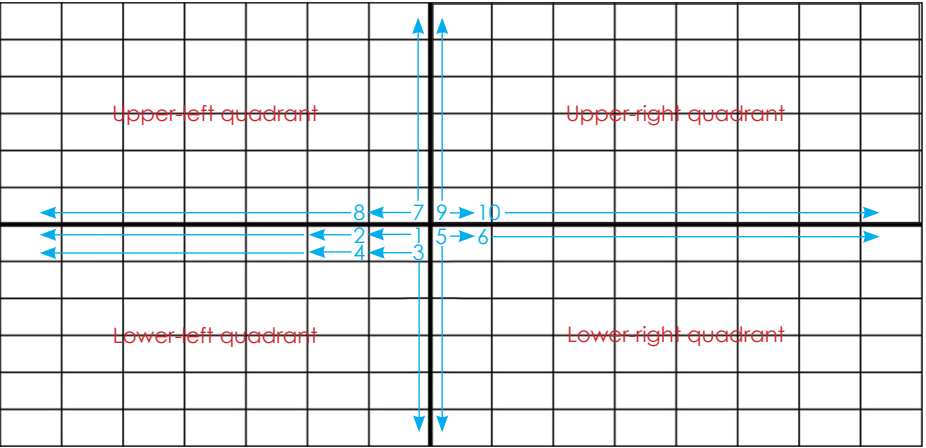

Figure 50: Divide Display into Four Quadrants
- 9. Locate the center of the display and visually divide the display into four quadrants. Refer to **Figure 50**.
11. Place jiggling pieces one by one from left to right in the lower-left quadrant. Refer to **Figure 50**.
12. Shift down a row and place jiggling pieces one by one from left to right. Refer to **Figure 50**.
13. Repeat **Step 10** and **Step 11** for the other quadrants, always starting at the center of the display and working toward the left or right and then toward the top or bottom. Refer to **Figure 50**.